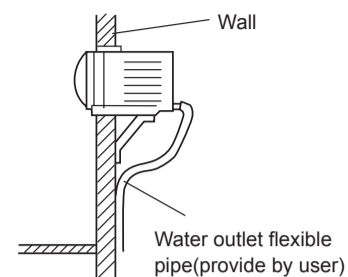

Fig.1
2. Put the whole machine with all the accessories installed, on the iron frame. If there's water outlet flexible pipe, lead it to needed position(see Fig.1).